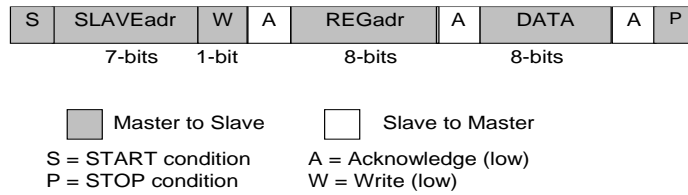
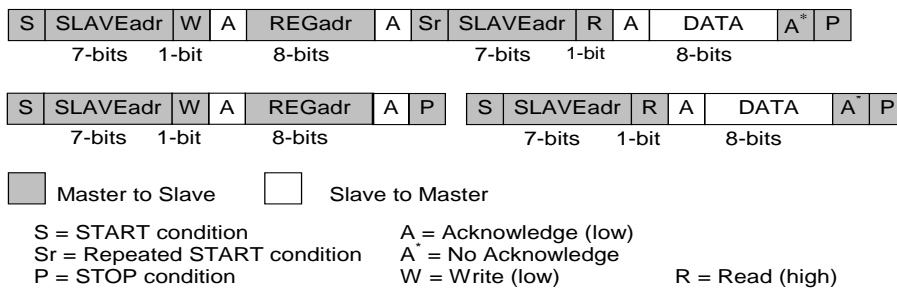

Figure 12: I²C Byte Write (SDA Line)
Figure 13: I²C Byte Read (SDA Line) Examples
The I²C bus is monitored for a valid slave address whenever the interface is enabled. It responds immediately when it receives its own slave address. The acknowledge is done by pulling the SDA line low during the following clock cycle (white blocks marked with A in Figure 12 and Figure 13).
The protocol for a register write from master to slave consists of a START condition, a slave address with read/write bit, and the eight-bit register address followed by eight bits of data, terminated by a STOP condition. DA9130 responds to all bytes with acknowledge (A), see Figure 12.
When the host reads data from a register it first has to write to DA9130 with the target register address and then read from DA9130 with a repeated START, or alternatively a second START, condition. After receiving the data, the host sends no acknowledge (A*) and terminates the transmission with a STOP condition, see Figure 13.